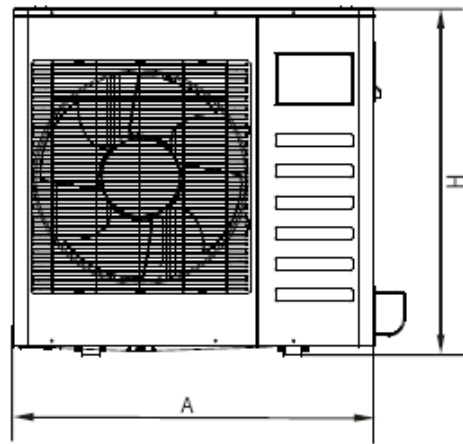
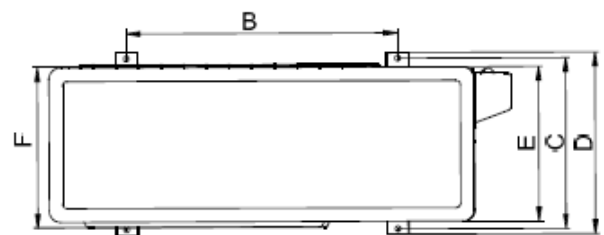

Fig.6-2
Fig.6-4
- The minimum distance between the outdoor unit and obstacles described in the installation chart does not mean that the same is applicable to the situation of an airtight room. Leave open two of the three directions. (Refer to Fig.6-4)
Refer to Fig.6-2~ Fig.6-4